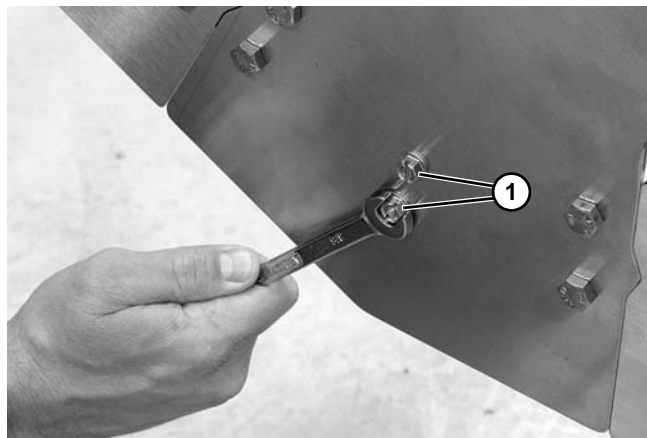
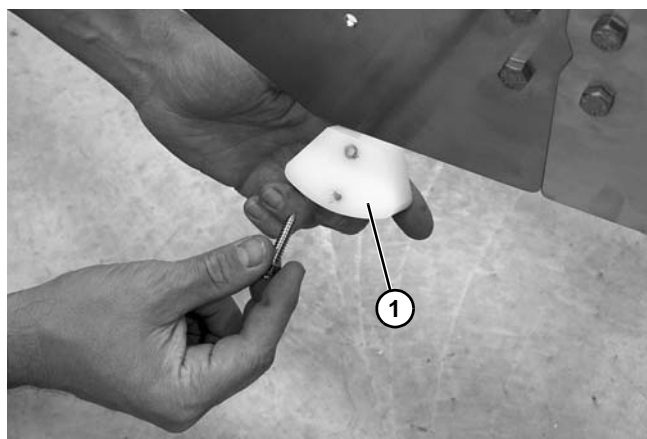

Figure 74
Figure 75
4. Remove two cap screws (**Figure 74, item 1**) and the inner belt return guide (**Figure 75, item 1**). Repeat on the opposite side of the conveyor.